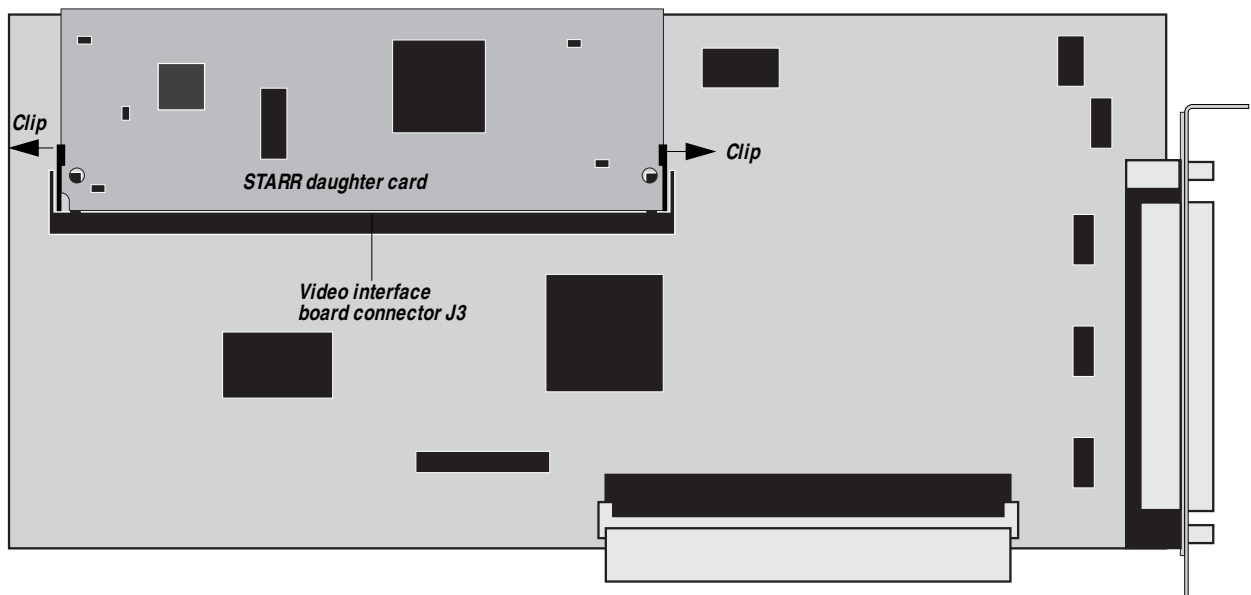

Figure 5-11 Removing the STARR daughter card
2. *Gently pull out the clips on the video interface board around the edges of the STARR daughter card (see Figure 5-11).*